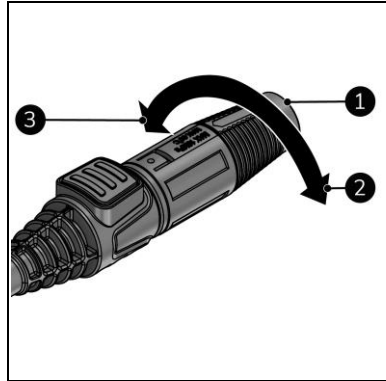

Figure 14
3. Rotate the head of the nozzle (Figure 14, pos. 1) to change the jet angle:
- for a smaller (more powerful jet) turn it clockwise (Figure 14, pos. 2).
- for a bigger (less powerful jet) turn it anti-clockwise (Figure 14, pos. 1).